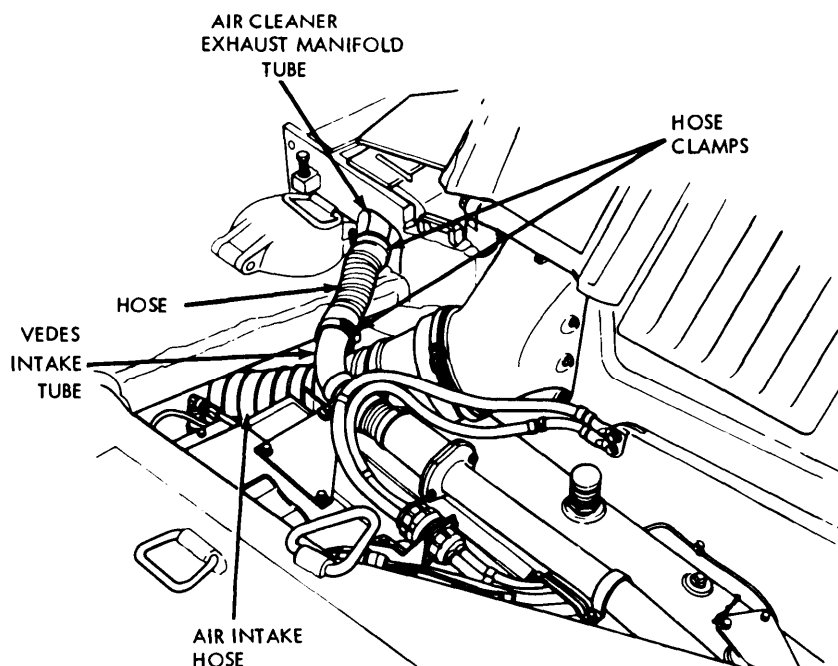

Figure 6-6. VEDES intake tube hose removal/installation (powerplant replacement).
- (1) Loosen two hose clamps (fig. 6-6) securing hose between air cleaner exhaust manifold tube and VEDES intake tube.
- (2) Slide hose back off air cleaner exhaust manifold tube.
- (1) Install hose between air cleaner exhaust manifold tube and VEDES intake tube (fig. 6-6).
- (2) Secure hose with two hose clamps.